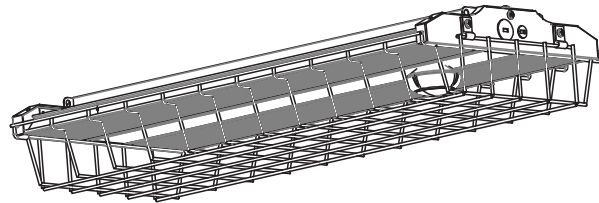

Figure 3
4. Inspect the wire-guard to ensure that it is secure with the fixture. (**Fig. 3**)